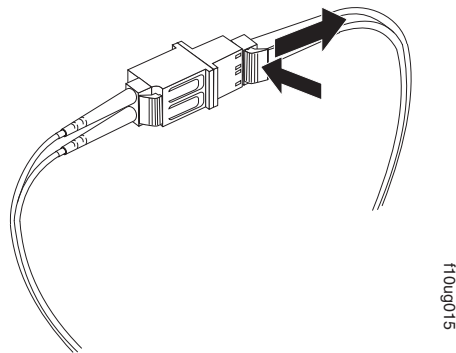

Figure 40. Removing the LC-LC fibre-channel cable from an LC-SC fibre-channel cable adapter
2. Carefully pull on the connector to remove it. Make sure you grasp the connector and not the cable when removing the LC-LC cable from the LC-SC cable adapter as shown in Figure 40.